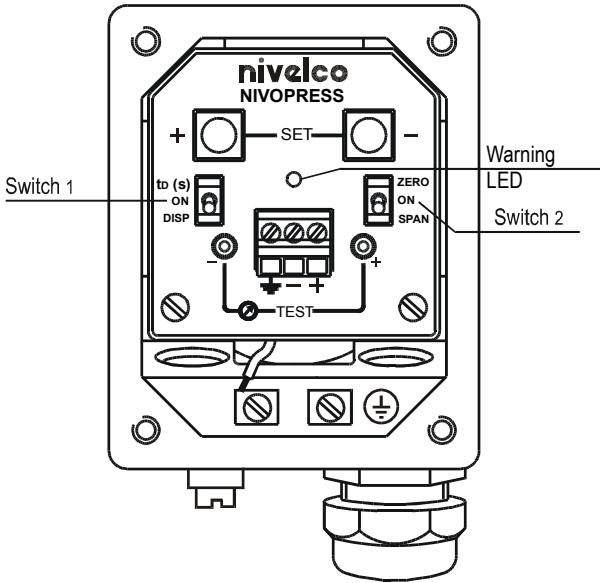

Fig. 3
Put the cable through the gland and connect wires in accordance with the marking at the screw terminal. (Fig.3).
2. Set Switch 2 (see Fig.3) to the "ZERO" position.
4. Reset Switch 2 (see Fig.3) to the "ON" position to end the calibration.
2. Set Switch 2 (see Fig.3) to the "SPAN" position.
1. Set Switch 1 (see Fig.3) to the "td(s)" position. This will reset the damping time to 0 sec.
3. Reset the Switch 1 (see Fig.3) to the "ON" position to end programming the damping time.